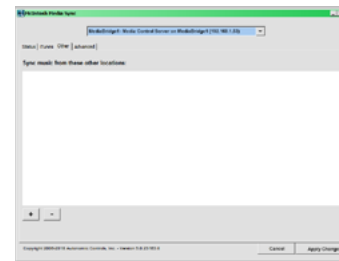

Figure 62
13. Referring to figures 62 and 63, select the “OTHER Tab” to add other (non-iTunes) music on the computer (or from other components connected to the same Network as the MS500). To add Folders that contain Music, click the “+” button and then select the desired Folder containing the music you want the MS500 to be able